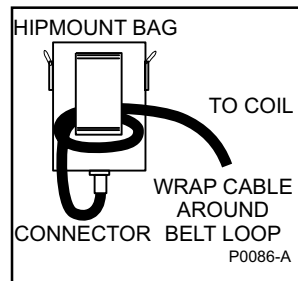

Figure 8 - Hipmounting the control box
- f) Take the excess loose coil cable and wind it through the belt bracket of the hipmount bag prior to connecting onto the control box (see figure 8).